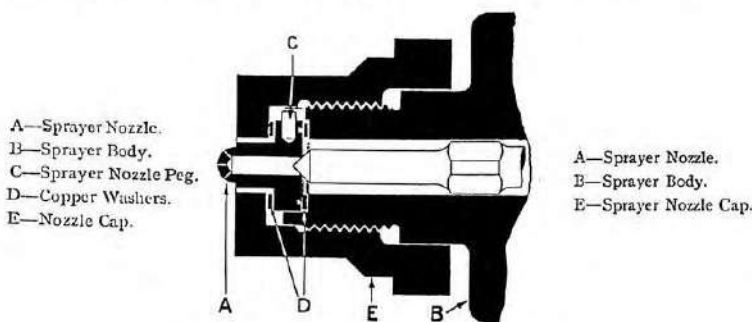

Fig. 43. SPRAYER NOZZLE AND CAP. (Original Type).
OIL SPRAYER.—(See Figs. 43 and 43A below, and Fig. 20, 20A and 20B on page 18). After the engine has been tested at our works the sprayer (and also the oil pump and control valve) is thoroughly charged with lubricating oil. If, as may very occasionally be the case with engines shipped abroad, any parts such as the nozzle and spindle are rusted, they must be withdrawn from the body and cleaned in paraffin to remove all rust and dirt. On no account should emery powder or cloth, or carborundum be used. The valve must be rubbed on its seat with oil only. The lift of the sprayer spindle will usually be found not to exceed $\frac{1}{32}$ in. to $\frac{1}{16}$ in. (1 to 2 m/m); a gauge is provided to adjust this lift. See note 1 below. *In any case neither this lift nor the compression of the spring must be altered from the condition as received with the engine without good cause, because both are set when the engine is undergoing its test at our works.* If, after a long period of running, the lift of the sprayer spindle increases, it may be reset to the original lift, as described in Note 1 following. See letter U on illustration Fig. 20, on page 18.
(5) **Original Type Sprayer Nozzle.**—The sprayer nozzle A, Fig. 43, page 43, should not be removed from the sprayer body unless really necessary, and it is then absolutely essential that it should be replaced in the body again, when assembling, in exactly the same position as before its removal. The locating pin C in the side of the nozzle is inserted in the slot cut in the sprayer body to ensure the correct disposition of the small holes for forming the spray.
As it is **extremely important** that the accurate alignment of the sprayer spindle and the valve seating in the nozzle is preserved, it is **absolutely necessary** for the attendant to re-assemble the parts, after examination and cleaning, in the following stages (See Fig. 43) :—
COPPER WASHERS.—All joints, which have to withstand the oil pressure produced by the fuel pump, are made with softened copper washers. When any joint requires to be re-made the copper washer must either be a new soft one or, if the old washer is used, must first be re-softened. This may be done by heating the washer to a red heat in a gas jet or in a flame from a blow lamp and then immediately plunging into water. No old washer should be used if it has become very thin or distorted. This is particularly important in the case of the washer **D** under the sprayer nozzle as shown in Fig. 43.